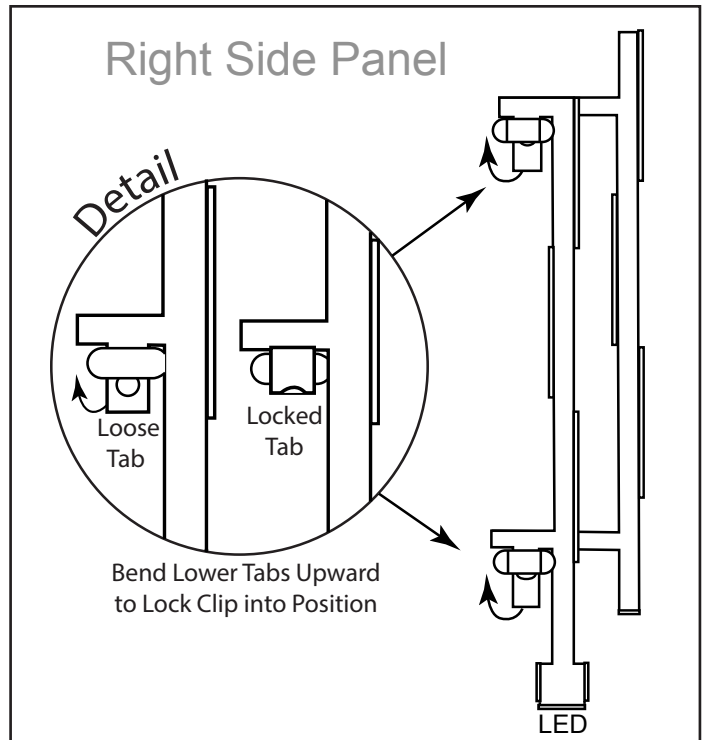

Fig. 21 Detail close up of glass clips.
Step 2: After each LED glass clip is installed, use a flat blade screw and carefully bend the bottom tab out and upward to lock it into position. Use a fingertip or pliers to press the tab flat against the metal bridge. See Fig. 21.